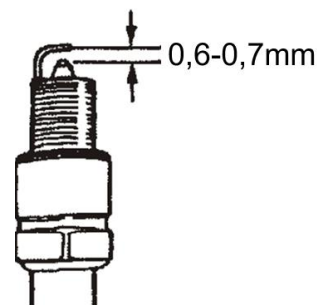

Fig. 9
- Remove the spark plug cover (7) and clear any dirt from the area around the spark plug.
- Measure the spark plug gap using a spark plug gauge. If necessary, adjust the gap by carefully bending the side electrode. The gap should be between 0.6 mm and 0.7 mm. See Fig. 9.